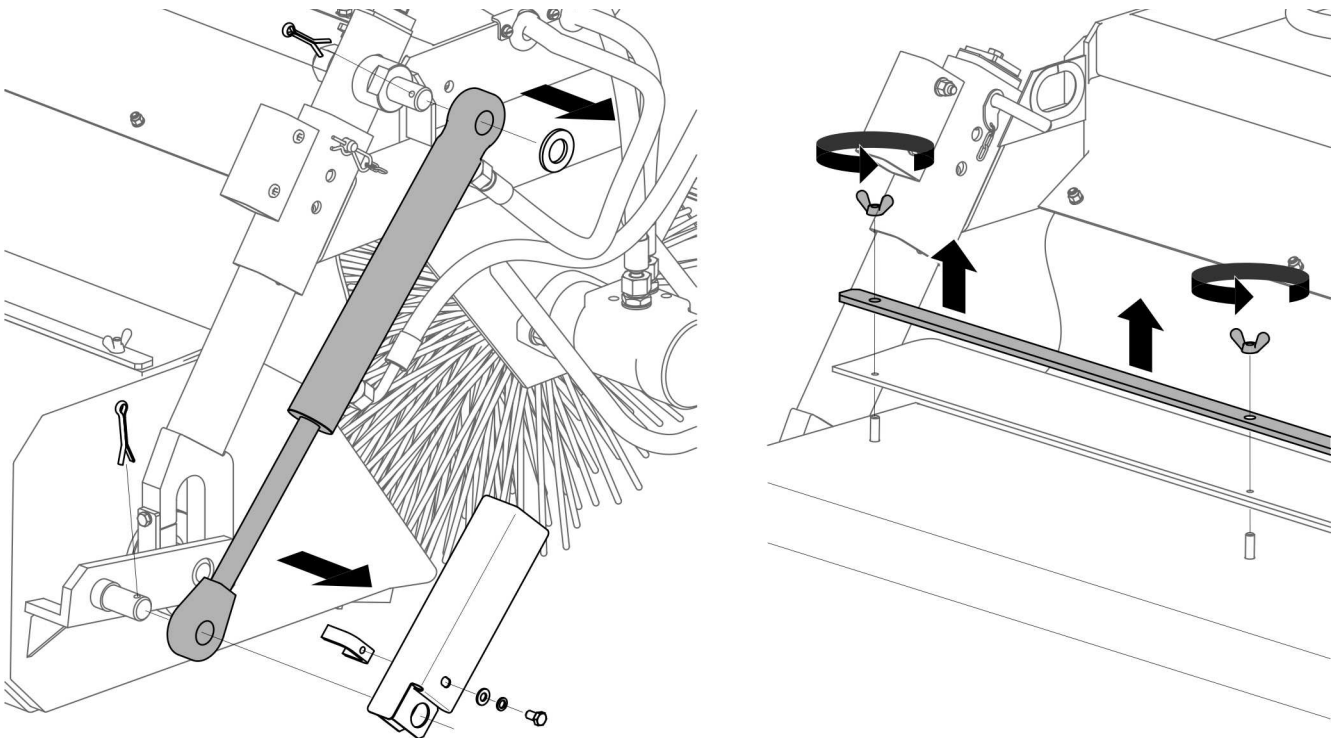

FIG. 4.6 Removing of the hydraulic cylinder and a rubber apron strip
- Remove the cotter pins from the hydraulic cylinder mounting points so it can be removed (FIG. 4.6)
- Unscrew the wing nut (FIG. 4.6) of the rubber apron to remove the terminal block. During sweeping without the waste tank, apron hangs down and provides protection against ejected particles.